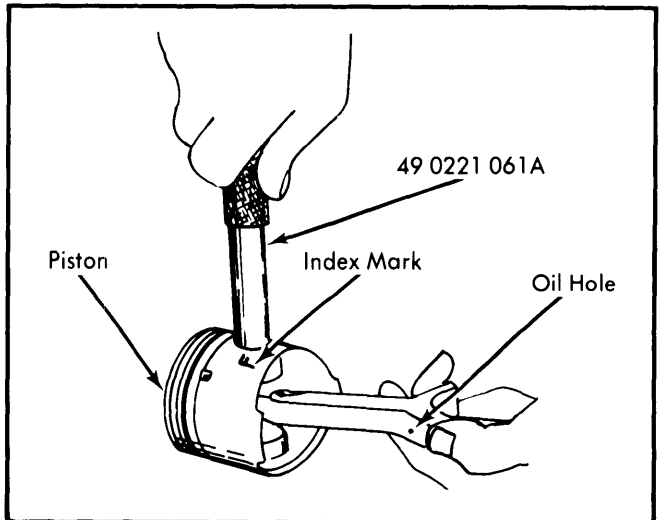

Fig. 7 Installing Piston Pin
- 4) Begin reassembly by replacing piston pin circlip. Place connecting rod in piston so oil hole on connecting rod and piston index mark "F" are in relation. See Fig. 7. Using suitable piston pin installation tool, seat piston pin. Install second circlip.